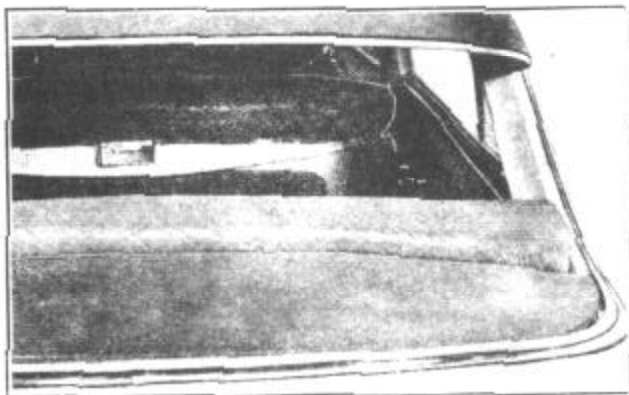

FIGURE 75
4. Stretch headlining down and press into cement around rear window opening. To avoid wrinkles and pleats in the material at corners, cut several radial slits about 1-1/2" apart and 3/4" deep. Work material around the flange of the rear window opening and tack in place with upholsterer's tacks, Figure 75.